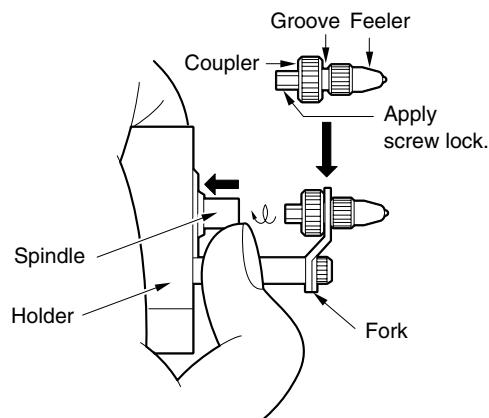

Fig. 5 Mounting the feeler
3. Mount the feeler. Push in the spindle with your finger, place the groove between the feeler and the coupler into the fork, and screw the feeler onto the spindle in this position. (Fig. 5)